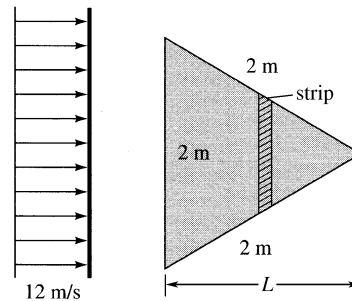

Fig. P7.34
**7.34** A thin equilateral-triangle plate is immersed parallel to a 12 m/s stream of water 20°C, as in Fig. P7.34. Assuming  $\text{Re}_{\text{tr}} = 5 \times 10^5$ , estimate the drag of this plate.